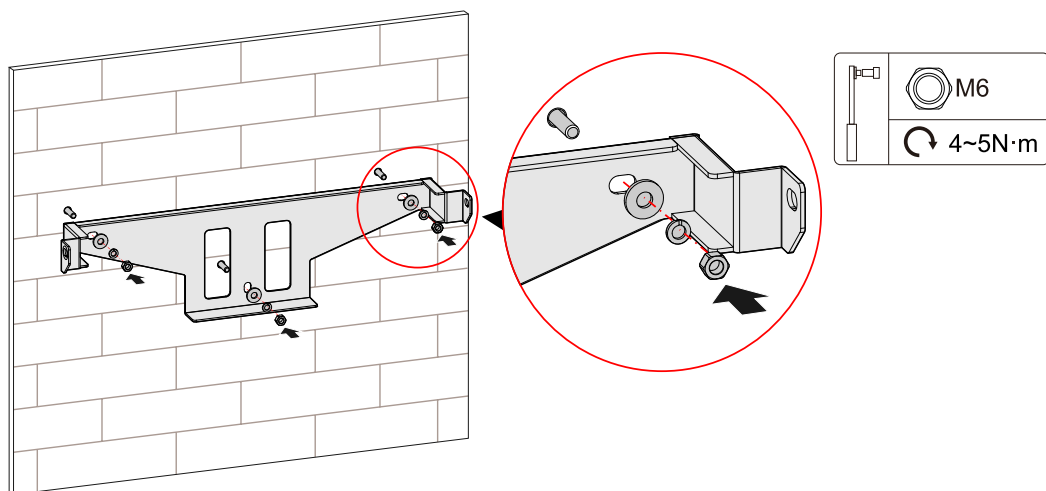

Figure3-10 Fasten the installation holder
Step 4 Align the holes of installation holder with the expansion bolts and install the flat gasket, spring gasket and nut into the expansion plugs and fasten them by wrench, as shown in Figure3-10.